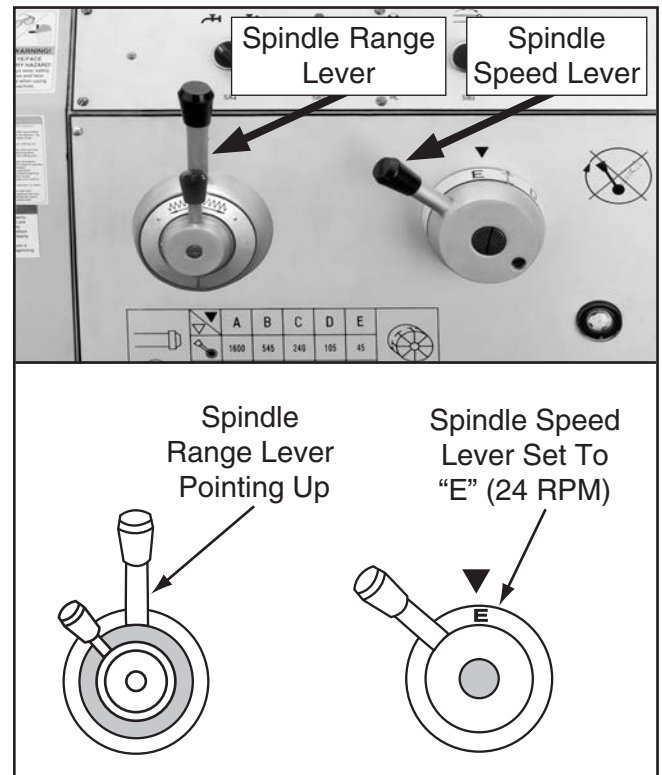

Figure 27. Spindle speed set to 24 RPM.
a. Position the spindle range lever straight up, so it aligns with the arrow on the headstock (see **Figure 27**).
b. Position the spindle speed lever so the "E" is directly under the black arrow on the headstock (see **Figure 27**).